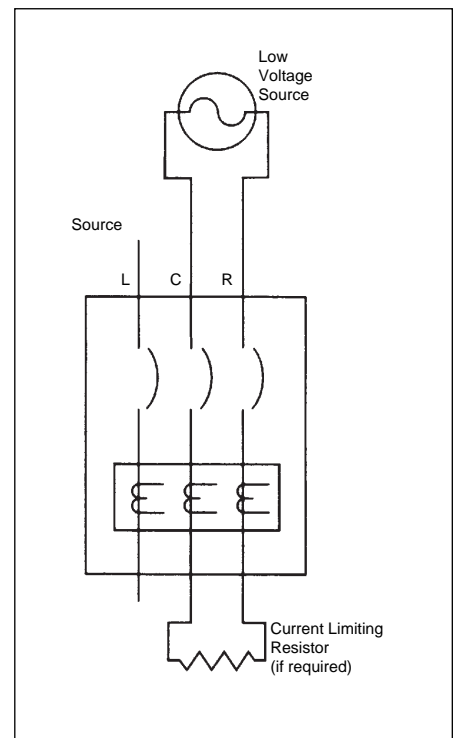

Figure 7-1c Connections for Ground Fault No-Trip Test with a Three-Wire System
7.3.6 If the system is a 3-wire system with no neutral current sensor, apply the same current as described in paragraph 7.3.4 above through any two phases of the breaker, with the connections exactly shown in Figure 7-1c. The breaker should not trip, and the alarm indicator, if supplied, should not operate.